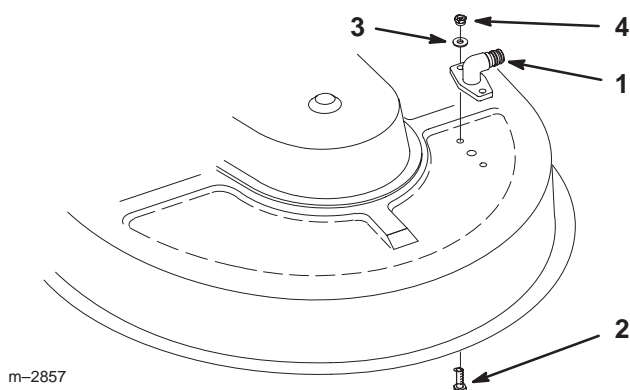

Figure 5
- Place fitting on mower facing outward, and secure with (2) 1/4–7/8" (22 mm) bolts, (2) 1/4" (7 mm) washers and (2) 1/4" nuts (Fig. 5 or 6).